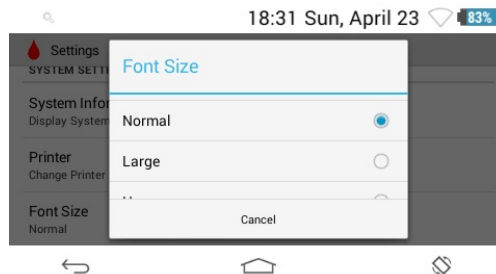

Figure 22 – Adjusting font size
- 2 Select the preferred size (**Small, Normal, Large, Huge**). See Figure 22.